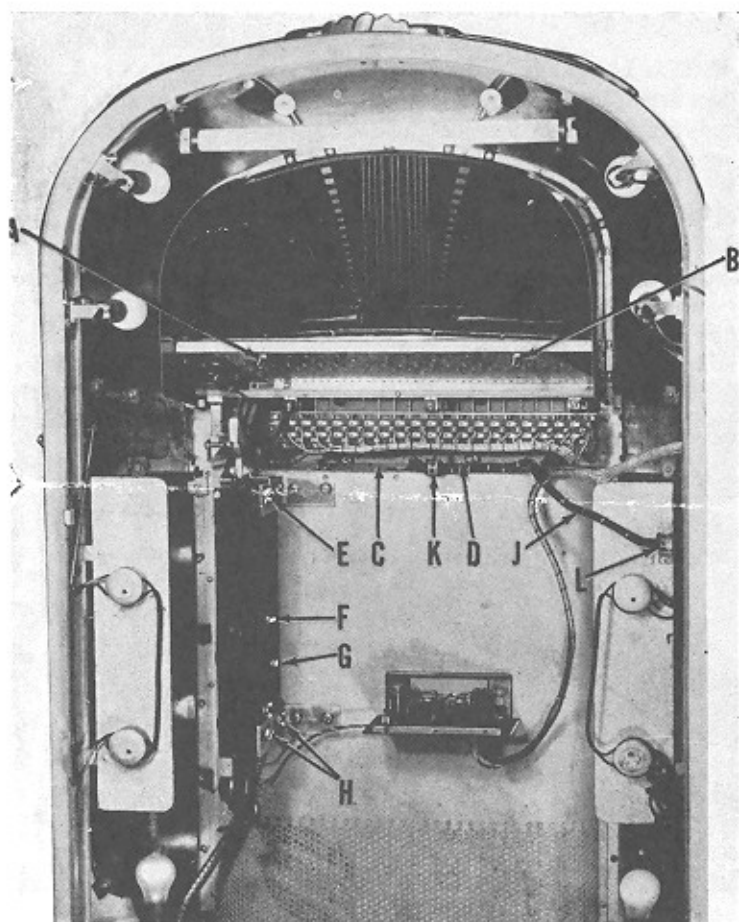

Fig. 1 - Inside Front Door
1. Program panel snaps out by unlocking two spring clips (A and B-Fig. 1).